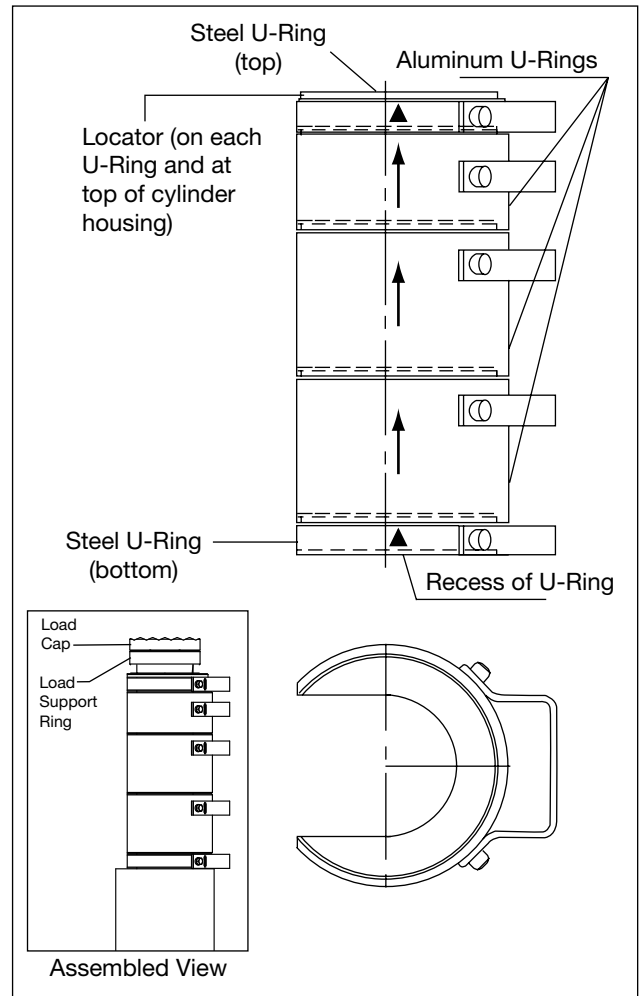

Figure 6, U-Ring Stacking Arrangement (typical)
5.8 U-Ring Stacking Instructions (See Figure 6)